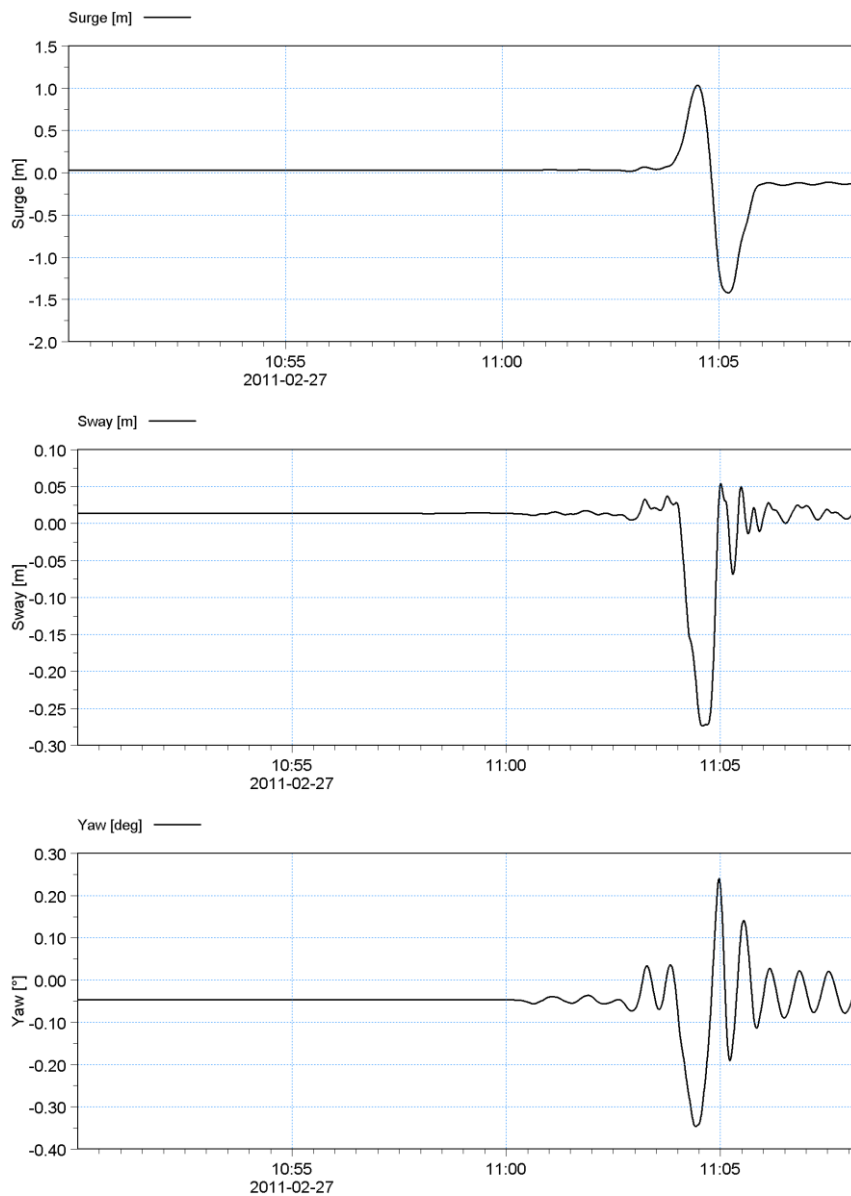

Figure 3-24 Passing vessel induced moored vessel motions - surge, sway and yaw
14. Open the newly created *Vessel1_motions.dfs0* file and plot the *Surge, Sway and Yaw motions*. You should see that the vessel is stable until around 11:05 when the passing vessel generated displacement waves arrive at the berth and induce a large surge motion of the moored vessel. Motions in the other degrees of freedom are relatively small. Your plotted surge, sway and yaw motions should appear as shown in Figure 3-24.